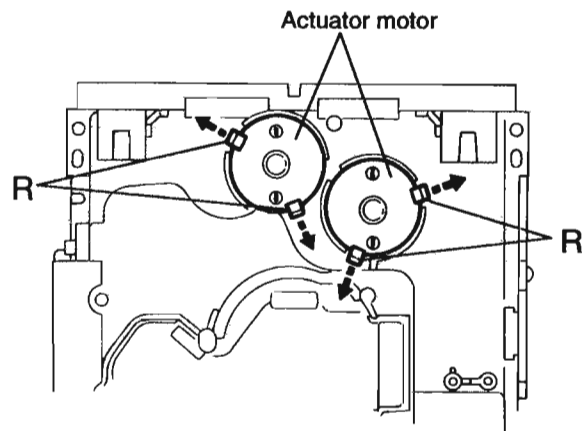

Fig.20
3. From the notch "Q section" on the chassis assembly fixing the edge of gear bracket, remove and take out the gear bracket(See Fig. 20).